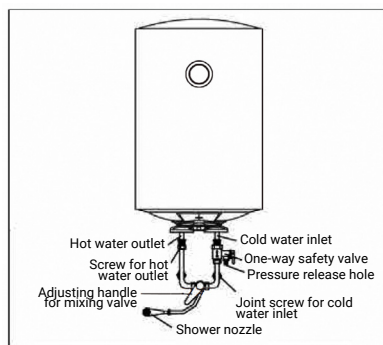

Fig. 3
- In order to prevent leaks when connecting the pipes, the rubber sealing gaskets provided with the thermostats must be added to the end of the threads (see Fig. 3). Ensure leak-proof joints.